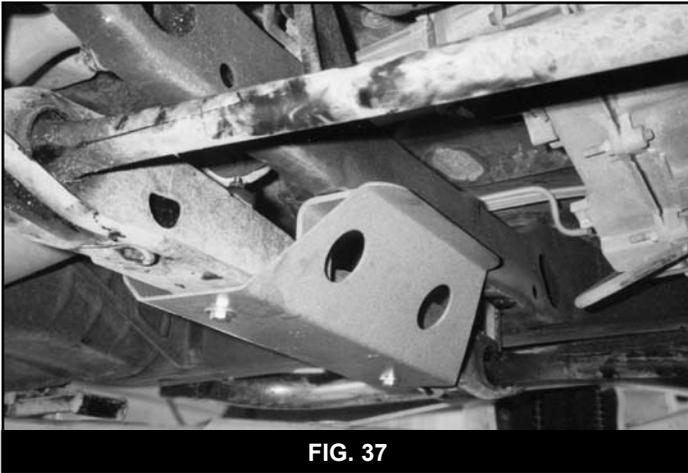

FIG. 37
77. Install torsion bar guard #01148. Install guard using the 3/8" x 1" self-tapping bolts from bolt pack #511 in the crossmember holes. Place a 3/8" USS washer on the 3/8" x 5-1/2" bolt and start through the guard. Install a supplied blue bushing between the guard and the crossmember. Run the bolt through the bushing and frame. Install a bushing and a stem washer on top of the 3/8" bolt sticking out the top and secure with the 3/8" nuts. Torque all 3/8" bolts. (Fig. 37) Hardware found in bolt pack #511.